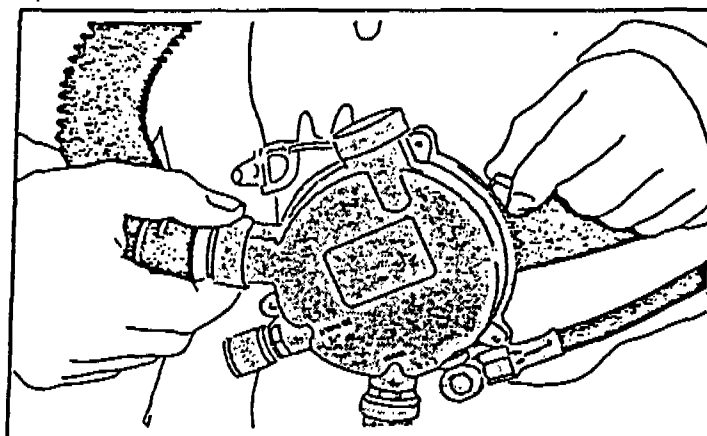

Figure 9
17. Place the regulator controls in the USE position. (Figure 9).